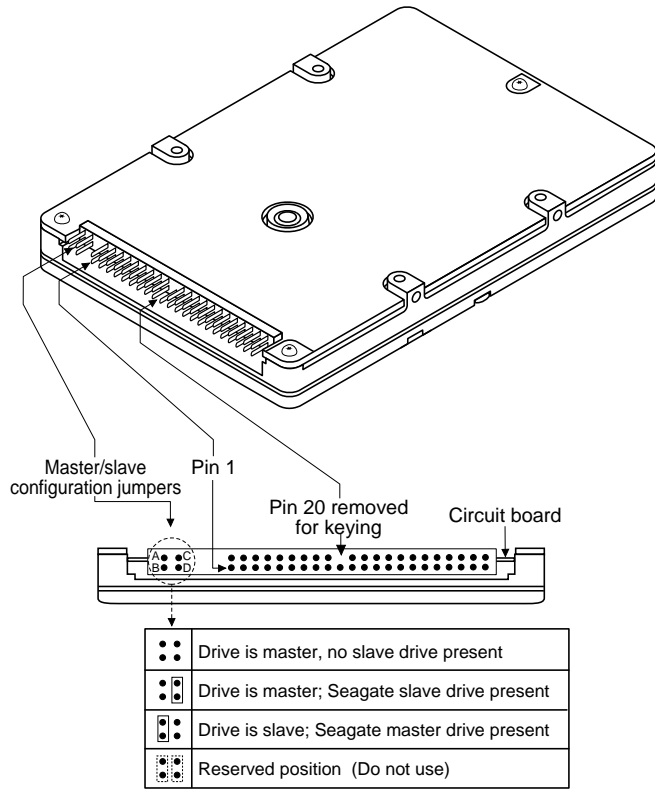

Figure 1. AT interface cable connector and master/slave configuration jumpers
Two drives may be controlled through a single drive controller cable with two connectors. In this case, one drive is designated as the master and the other is designated as the slave. As shown in Figure 1 on page 4, the jumpers on each drive must be set to identify which drive is master and which is slave.
ST9100A and ST9100AG drives use a 44-pin AT interface connector cable with two rows of 22 female contacts on 0.079-inch (2 mm) centers (see Figure 1). Pin assignments for the AT interface are listed in Appendix A.
- **Check all cables.** Make sure all cables are securely connected. Ribbon cables are especially fragile. Make sure they are not crimped or damaged in any way. Having extra cables on hand for troubleshooting saves time and frustration. Most cables have a stripe down one side to designate the pin 1 location. Make sure pin 1 on the interface cable connector is connected to pin 1 on the drive interface connector and pin 1 on the host connector. Refer to Figure 1 on page 4 for the location of pin 1 on the drive interface connector.